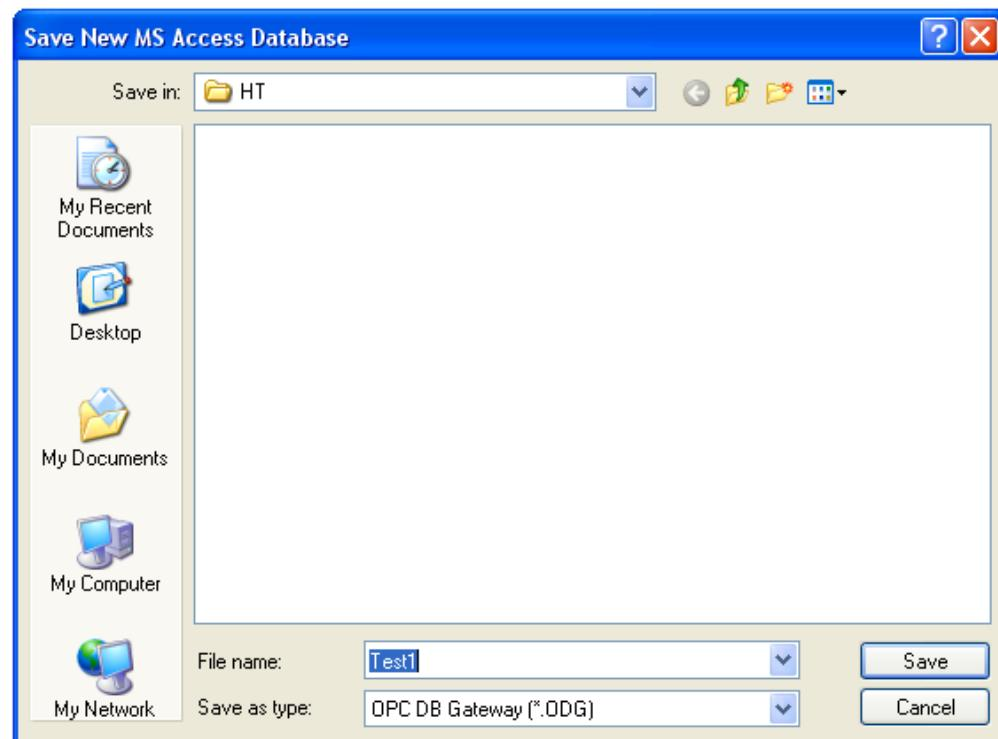

Figure 2: Creation of a new configuration for OpcDbGateway.
4. Click on the Save button (please see Figure 2).